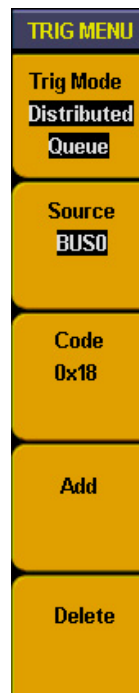

Fig 70: Distributed queue trigger menu
5. **Distributed queue trigger:** make BUS as trigger source and dis-continuous setting data in BUS as trigger condition to generate trigger and also can set 8 data at the same time. Distributed queue trigger menu refer as Fig.70